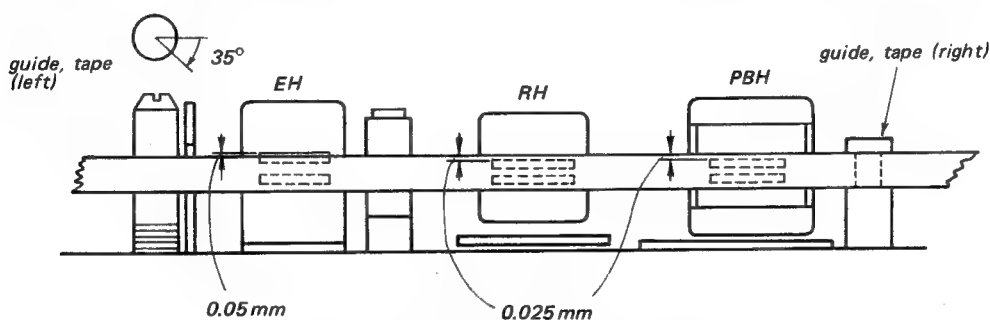

Fig. 12-5 Tape guide (left) adjustment
- (1) Turn the azimuth adjusting screws and the angle adjusting screws so that the record head and the playback head are positioned nearly as shown in Fig. 12-5.
- (2) Turn the p.b. head height adjusting screw so that the upper edge of the p.b. head is 0.025 mm lower than that of the tape and memorize the angle of turns.
- (3) Turn the p.b. head zenith adjusting screw by the same angle of turns to the same direction of the p.b. head height adjusting screw.